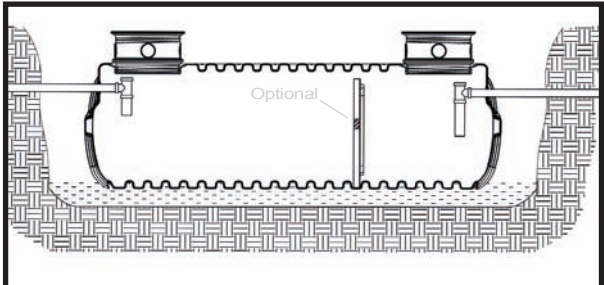

**FIG.2** Gasket Detail
- Install provided rubber gasket in inlet and outlet ports. (Fig. 2)